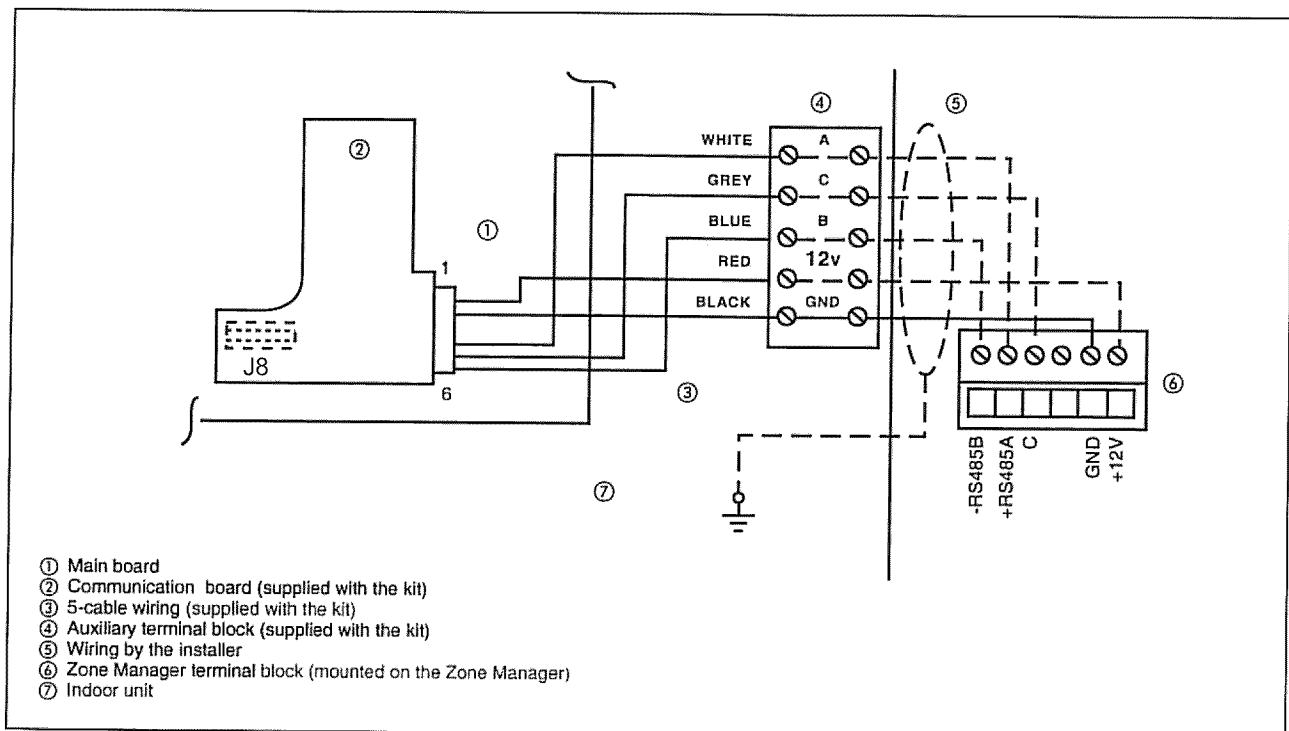

Fig. 34 - Wiring for Zone Manager
- Plug the communication board to the J8 as shown in Fig. 34.
- Connect the other end of the wire harness to the field supplied wiring that will be connected to the zone manager as shown in Fig. 34 (shielded cables are required. Refer to Zone Manager Installation Instructions).